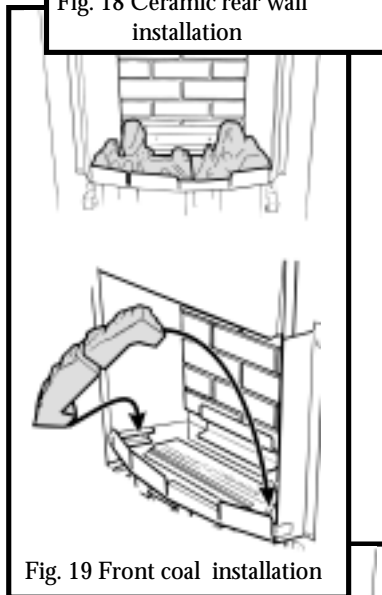

Fig. 19 Front coal installation
10.2 Place the two halves of the front base coal in the burner compartment so that they rest on the ledges at the sides and front. Pull the coals forward so that they are immediately behind the front rim of the burner compartment (See fig. 19).